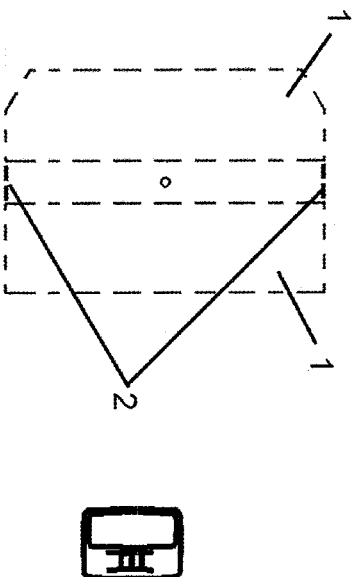

FIGURE 2
- 2.) USING A SHARP UTILITY KNIFE, CAREFULLY CUT THE HEADLINER ALONG THE LINES TRACED ON THE HEADLINER (1) AND REMOVE THE CUTOUT MATERIAL. (SEE FIGURE 2)
- 3.) CUT AND REMOVE THE CENTER RECTANGULAR SECTION (2) AFTER THE CUTOUT MATERIALS HAVE BEEN REMOVED FROM HEADLINER. (SEE FIGURE 2)